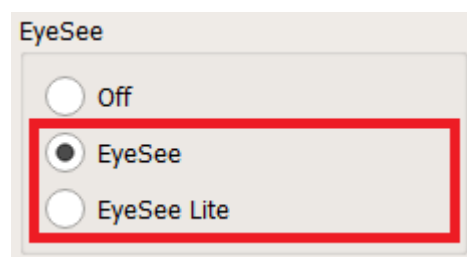

Figure 272. Setting the EyeSee method
To use the EyeSee functionality, go to the Settings page and select the "Examination" from the list on the left. In the "Examination settings" window in the "EyeSee" group, one of the two available EyeSee presentation options should be selected (Figure 272. Setting the EyeSee method):
- EyeSee – this mode stores the eye fixation data as eye images captured from the device's camera. In case of start of the test with this option, it is possible to present EyeSee data for such a test (or performing a follow-up test) also in the form presented by the EyeSee Lite function depending on which method is selected in application settings (Figure 272. Setting the EyeSee method).